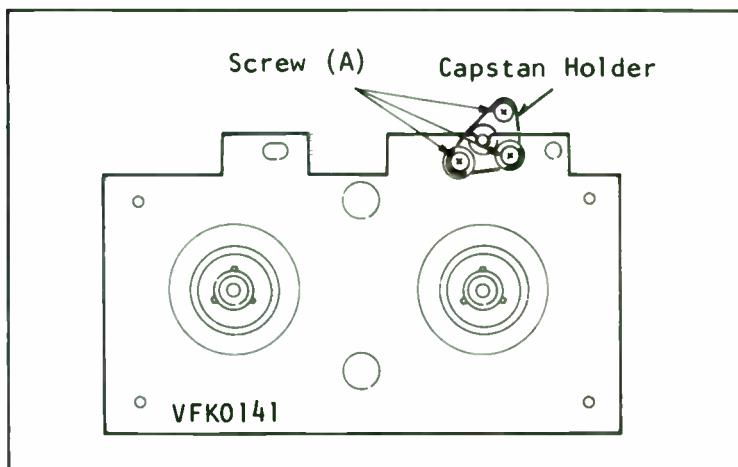

Fig. 10-17. Capstan holder adjustment (courtesy of Magnavox).
3—Now tighten the three screws (A). Refer to Fig. 10-17.